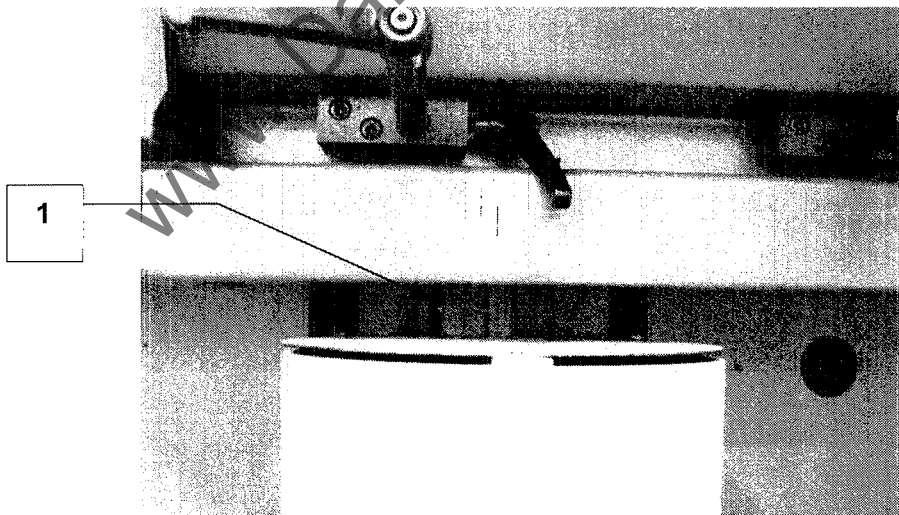

Figure 7.3.8
- 10 Locate the spindle and remove the wedge from the spindle housing and tighten locknut (1).
- 11 Refit the banjo and motor onto the spindle and remove the wedge from the banjo barrel; tighten the barrel clamp nuts (2).
7.3.8 Replace Fence / Near Side Head Spindle (Figure 7.3.8)